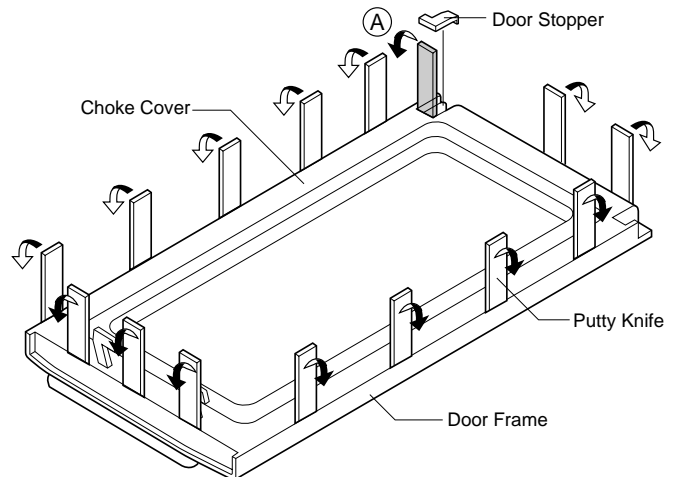

Figure C-3. Door Disassembly
5. Insert a putty knife (thickness of about 0.5mm) into the gap (A) between the door stopper and the choke cover as shown in Figure C-3 to free engaging parts.
7. Insert a putty knife (thickness of about 0.5mm) into the gap (A) between the choke cover and door stopper and between the choke cover and the door frame as shown Figure C-3 to free engaging parts.
8. Pry the choke cover by inserting a putty knife in order shown in Figure C-3.